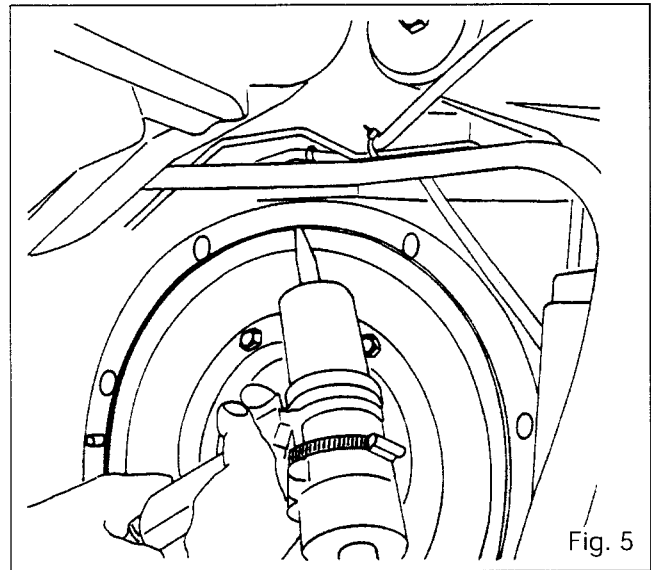

Fig. 5
19. Apply a bead of oil resistant (Silicomex type) silicone to the inner edge of the centre housing (Fig.5).